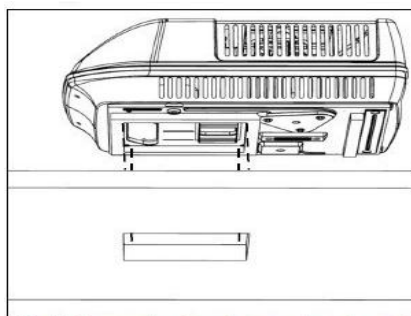

Fig 7: Shows the view from under the roof
- Position the unit so that the four M8 mounting holes will line up with the four corners of the square roof hole (Fig 7).